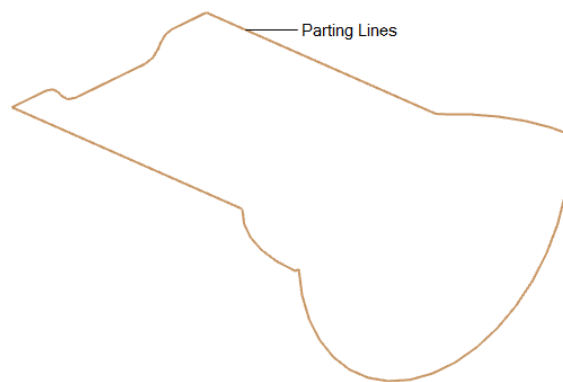

Figure 16-99 Parting Lines on the component
5. Clear all check boxes from the **Parting Navigator** window except the **Parting Lines** check box; parting lines get created in the window, refer to Figure 16-99.